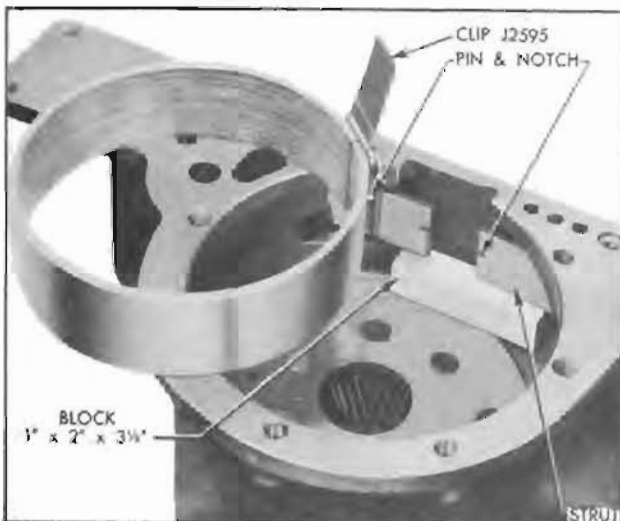

Figure 4-138—Installation of Low Band and Struts
2. With the assembly standing on end of rear bearing retainer, install a wooden block (1"x2"x3½") as shown in figure 4-138. Set both low band struts in position on block, with plain ends engaging strut shoulder of operating lever and groove in anchor shaft and with notched ends together and about ⅜" from wall of case. Spread struts as far apart as possible.
3. Compress ends of low band with Band Installing Clip J 2595 (fig. 4-138). NOTE: A used band must be reinstalled in original position—heaviest wear will be at anchor end. A new band can be installed either way.